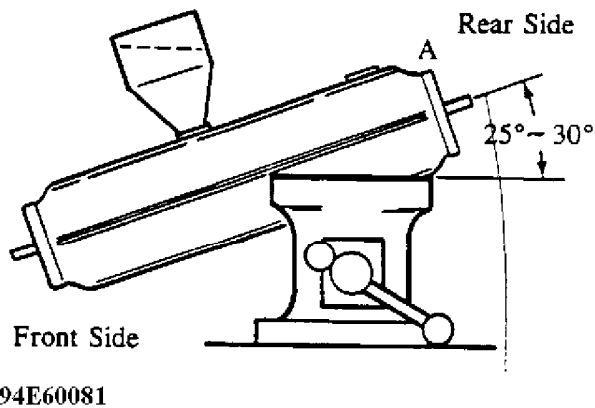

Fig. 15: Proper Positioning of Converter in a Vise
2. Hold the converter in a vise at an angle of  $25^{\circ}$ - $30^{\circ}$  as shown in Fig. 15.
5. Tap the converter repeatedly at point "A" (see Fig. 15) with a plastic hammer to allow the pellets to flow in until no more pellets can be put in.
9. Hold the catalytic converter at an angle of 25°-30° in a vise again (see Fig. 15).